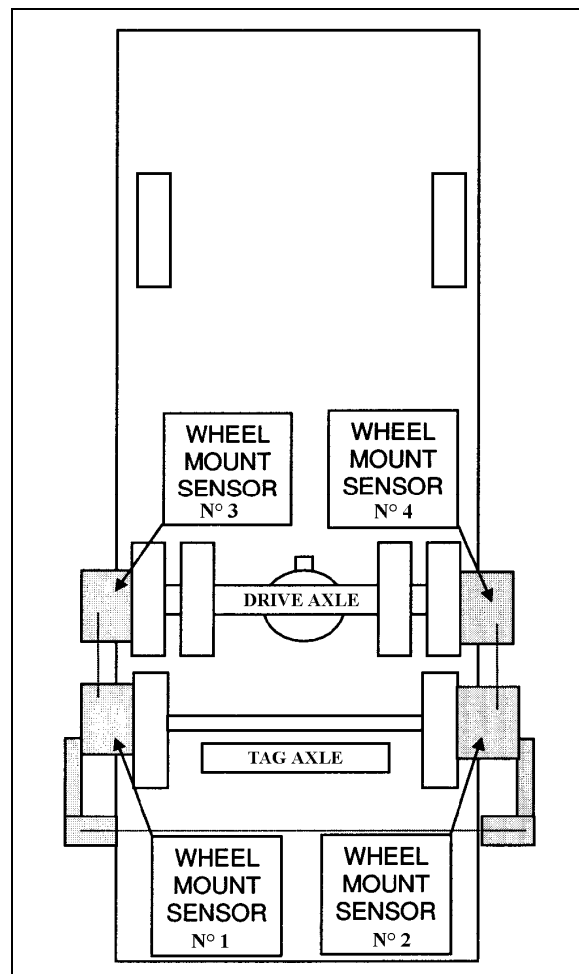

FIGURE 7: TAG AXLE ALIGNMENT
*See reference numbers on wheel mount sensors (fig.7).*
- With the system installed as in figure 7, adjust drive axle according to specifications' chart below.
- Remove and reinstall all wheel mount sensors on the drive and tag axles (fig. 7);
*Reinstall wheel mount sensors as shown in figure 7.*